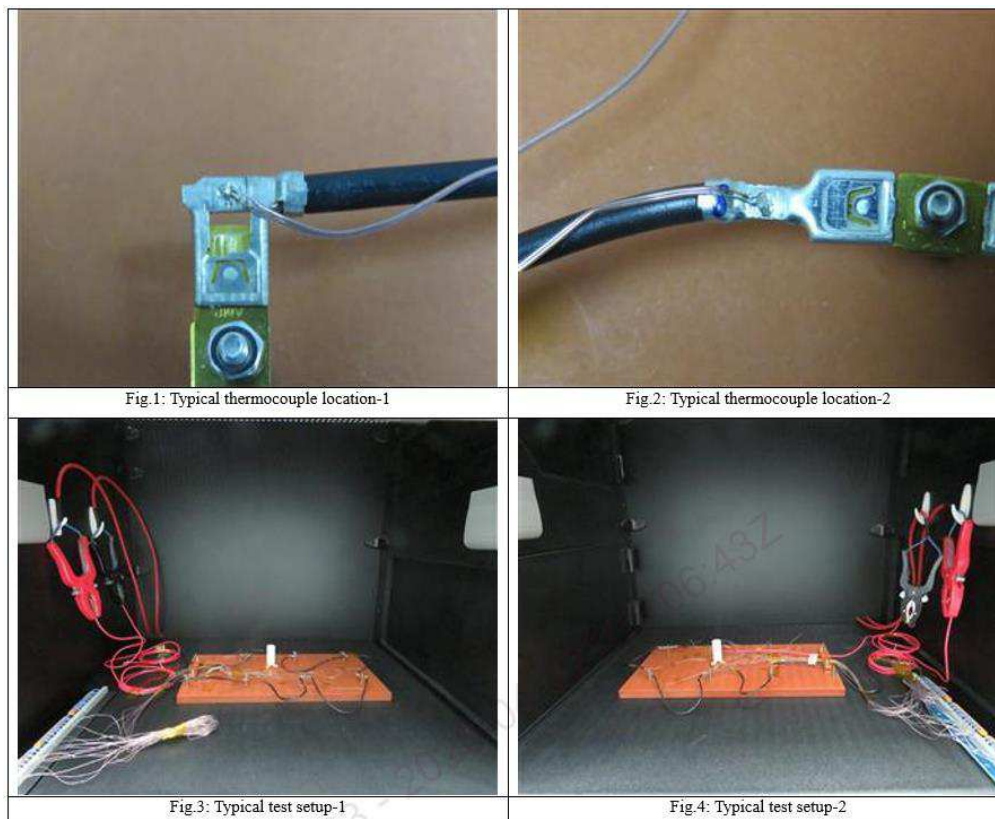

Figure 8 – temperature rise test set
- e. refers to figure 8 for temperature rise test set